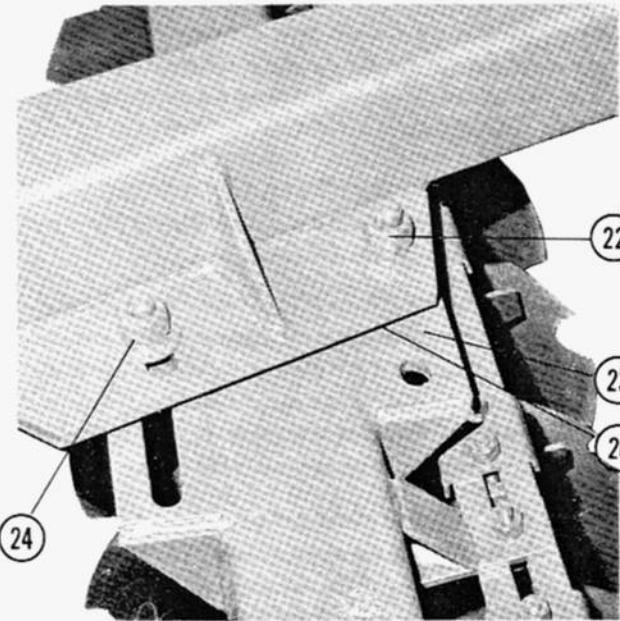

Figure 3
3. Offsetting Rear Gang Bar: (Refer to Figure 3) for ordinary conditions bolt(22) should be in the centre of lateral plate(23). When using disc as a double wide unit the rear gang bar is adjusted to maximum width to fill furrow. Remove two bolts(22), loosen bolt where slots are(24), adjust laterally then retighten all bolts.
B. Side to Side Leveling: (Refer to Figure 3) In general, adequate levelling from side to side may be obtained by placing leveling washers(26) between angling plate on frame and gang bar. leveling washers are always used on narrow side(N) of disc only.